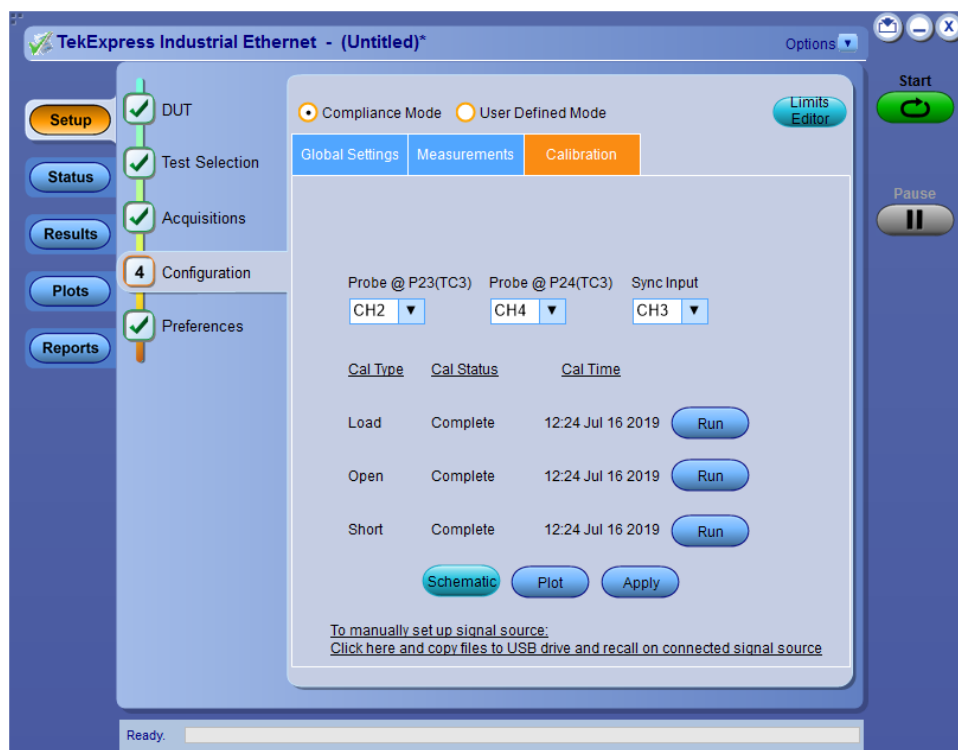

Figure 81: Return loss Calibration
10. Run all the three calibrations one after another, with appropriate connections to the calibration board (Load Calibration, Open Calibration, and Short Calibration). The application screen for calibration is show in the Figure 81 on page 112